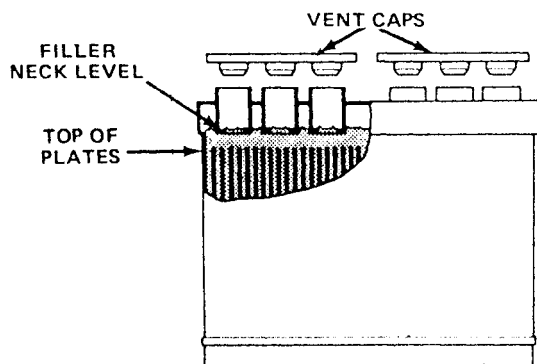

Figure 18
1. Remove vent caps from top of battery by pulling them up (Fig. 18).
2. Fill battery cells until level of electrolyte is over the plates, but only up to the ring at bottom of filler neck (Fig. 18). **DO NOT OVERFILL.** Next, let battery stand for about 15 minutes. During this time, level of electrolyte may settle and fall below the prescribed level; therefore, add electrolyte to any affected cell until level is up to ring at bottom of filler neck.
2. After battery is charged, remove vent caps from top of battery (Fig. 18). Next, check level of electrolyte in battery cells to make sure it is up to the ring at bottom of filler neck (Fig. 18). If level is low, add drinking water to raise level.